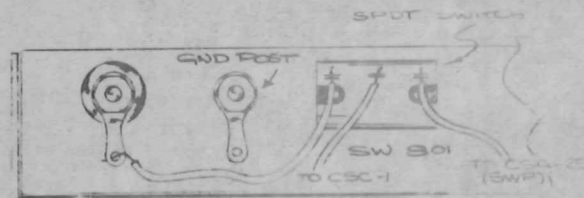

Fig. 7
37. Dress the other end of this wire through the same grommet that the white wire soldered to R840 (68k 2w resistor) is dressed through. Thread the wire through the bottom hole of the 3-hole post (step 31); through the top hole of the 2-hole post (step 33 or 34), and solder it to the right-hand terminal of the switch mounted in step 28 (see Fig. 7).